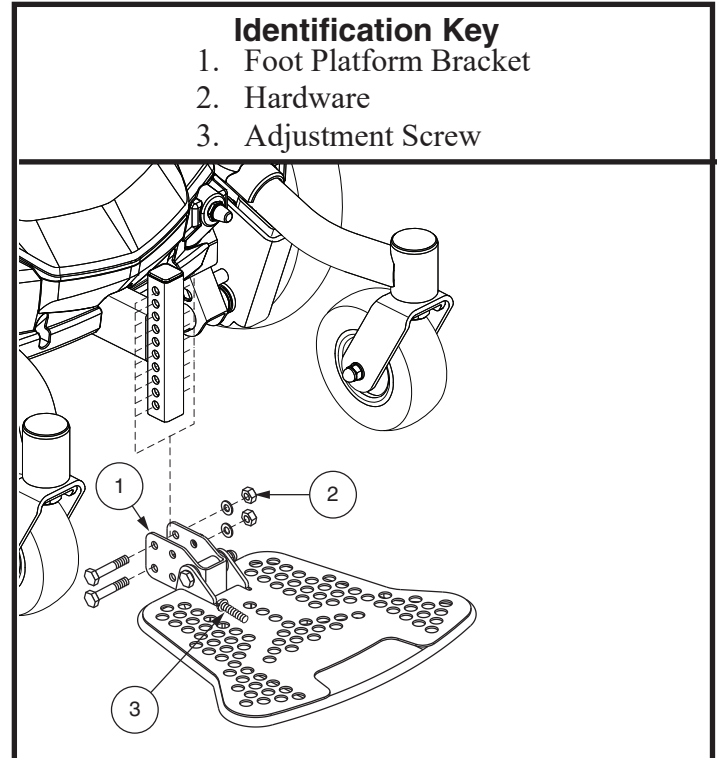

Figure 10. Foot Platform Adjustment
1. Remove the hardware from the foot platform bracket. **See figure 10 or 11.**
1. Remove the hardware from the foot platform bracket. **See figure 10.**
You can adjust the angle of the foot platform. **See figure 10.**